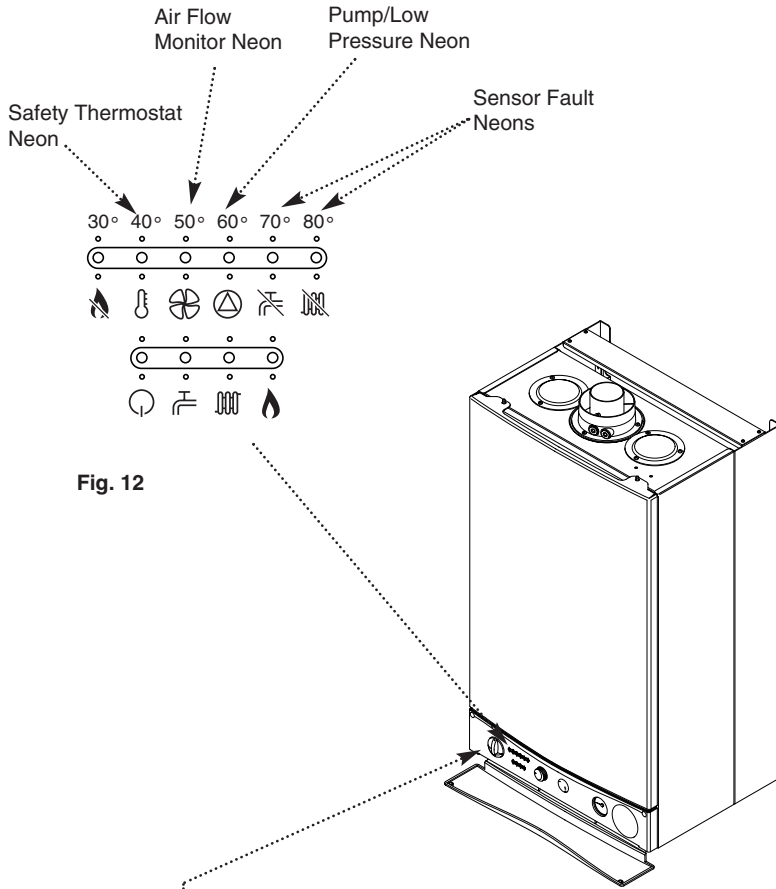

Fig. 12
2. If the () neon illuminates it indicates that the flue or flue terminal is blocked or obstructed in some way, or that there is an internal fault. If there is no external blockage of the flue terminal that can be easily removed contact your Service Engineer (Fig. 12).
1. The neon () will illuminate if the circulating pump is faulty or the system pressure drops below the minimum requirement (Fig. 12).
1. Your Potterton Performa System is fitted with an additional safety device, which shuts down the boiler in the event of the system or the boiler overheating. The safety thermostat neon () will light in this instance (Fig. 12).